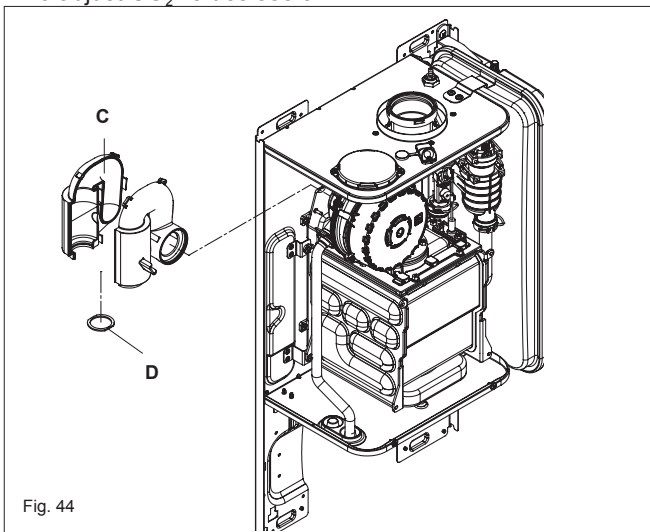

Fig. 44
- Replace if necessary the flange (D) on the silencer (C) loosening the two part (fig. 44)